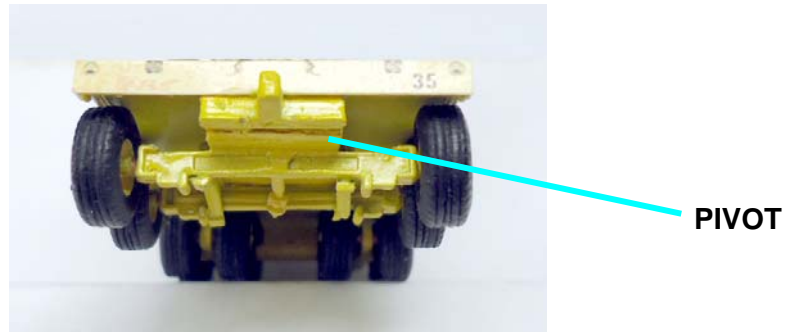

Figure 24. Tow Bar Pivot Attached
- 9) Glue the pivot to the front of the undercarriage steering box as shown in Figure 24.